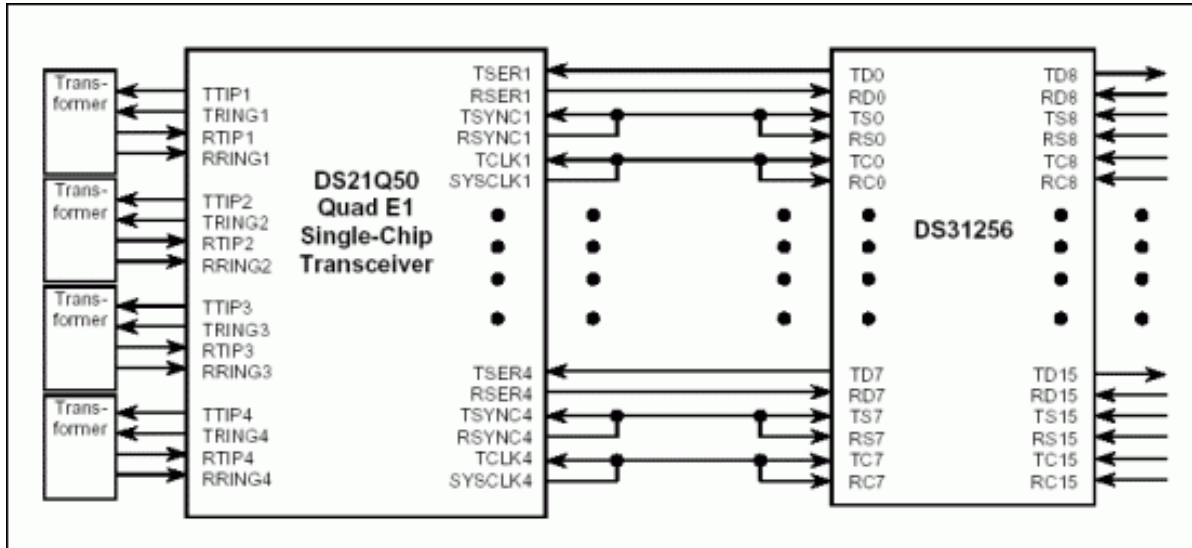

Figure 4. DS21Q50 connected to DS31256 in 2M mode.
**Figure 4** shows the connection between the DS21Q50 and DS31256 in 2M mode. As the IBO function is disabled, the transmit clock of each port is source from TCLK pin, which is connected to SYSTLK1. The Layer 1 of DS31256 is configured as E1 port.